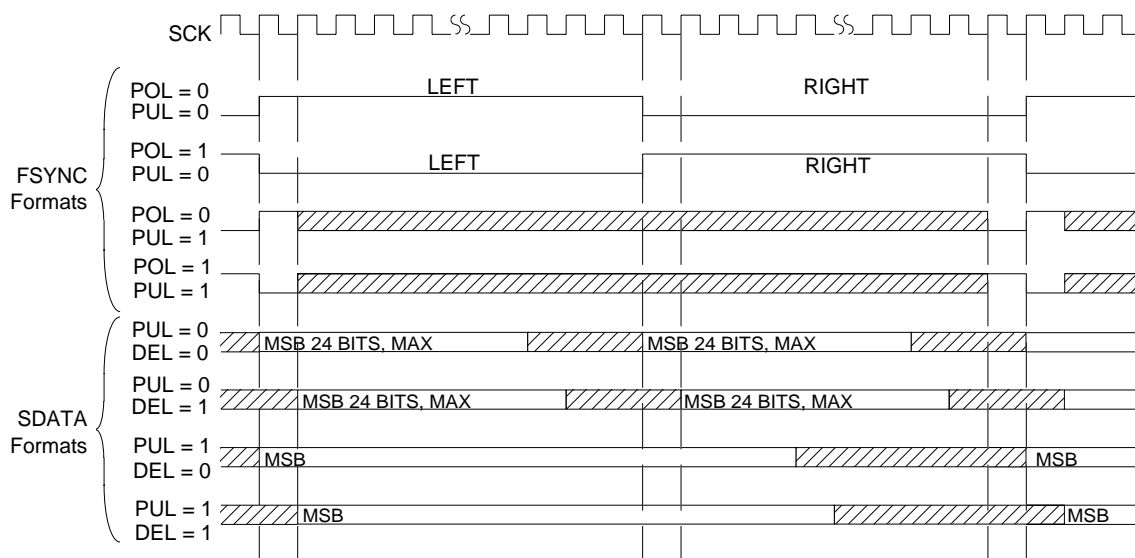

Figure 11. Asynchronous Serial Input Formats
reaches 16 (24). Transitions on FSYNC clear the bit counter. FSYNC can be toggled once to synchronize the bit counter with the incoming data stream, or on each word boundary. The ASI input register will be continuously loaded every 16 (24) SCLK periods. A programmable delay (DEL) can be added to shift the timing between FSYNC and SDATA by one period. Figure 11 shows the timing for the various ASI formats.